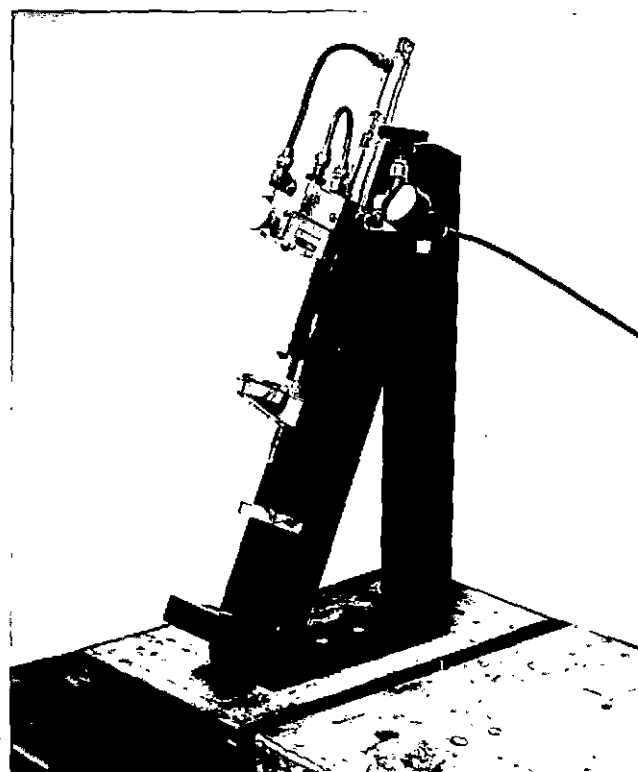

Fig. 4-9, (3375209). Injector Plunger Sticking Tool
1. The 3375209 Injector Sticking Plunger Checking Tool is used to check the injectors for sticking plungers, Fig. 4-9.